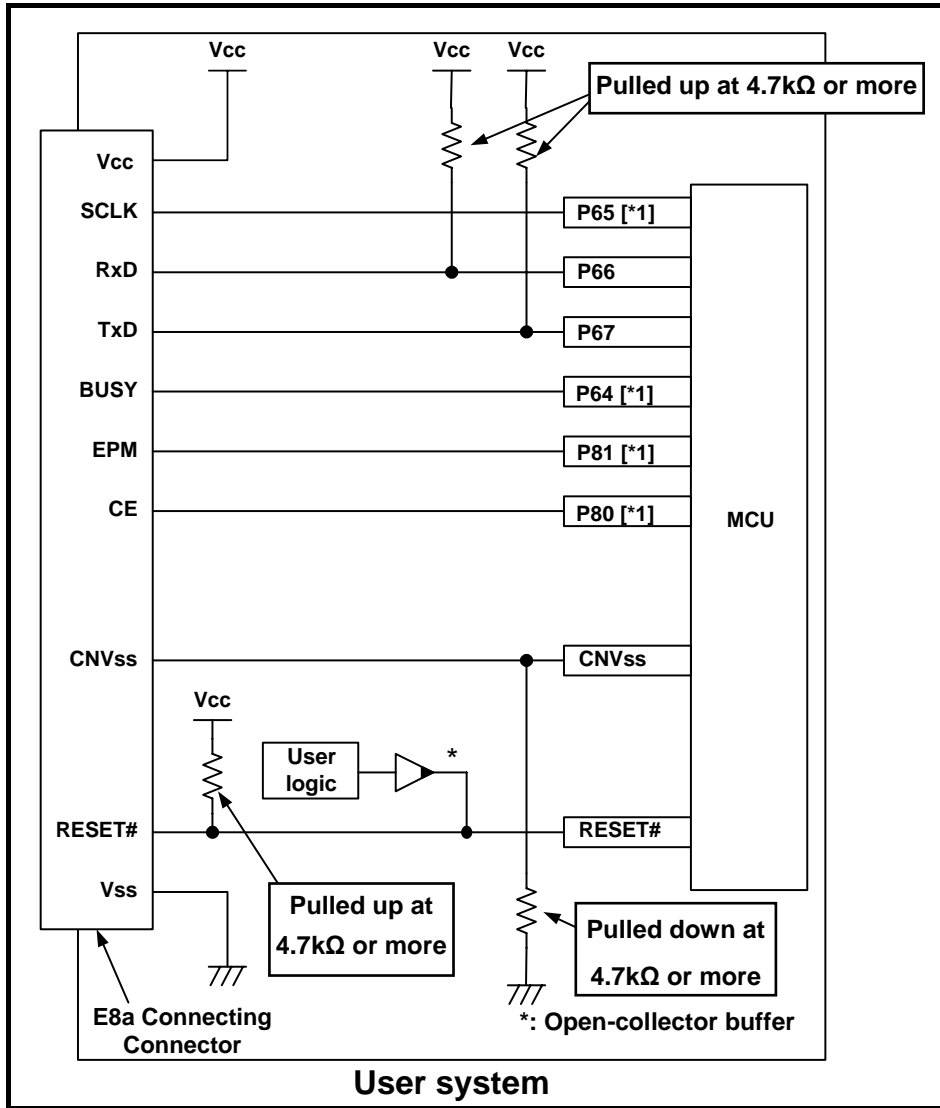

Figure 4.12 Example of an E8a Connection
- Single power supply and single-chip mode: See Figure 4.12.